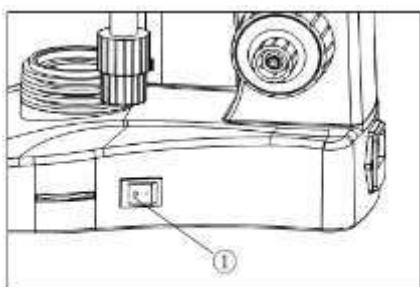

Fig.8
2.2.5 Connecting the power cord (Fig.8, 9,10)
2.2.6 Replacing the Fuse (Fig. 8, 9, 10)